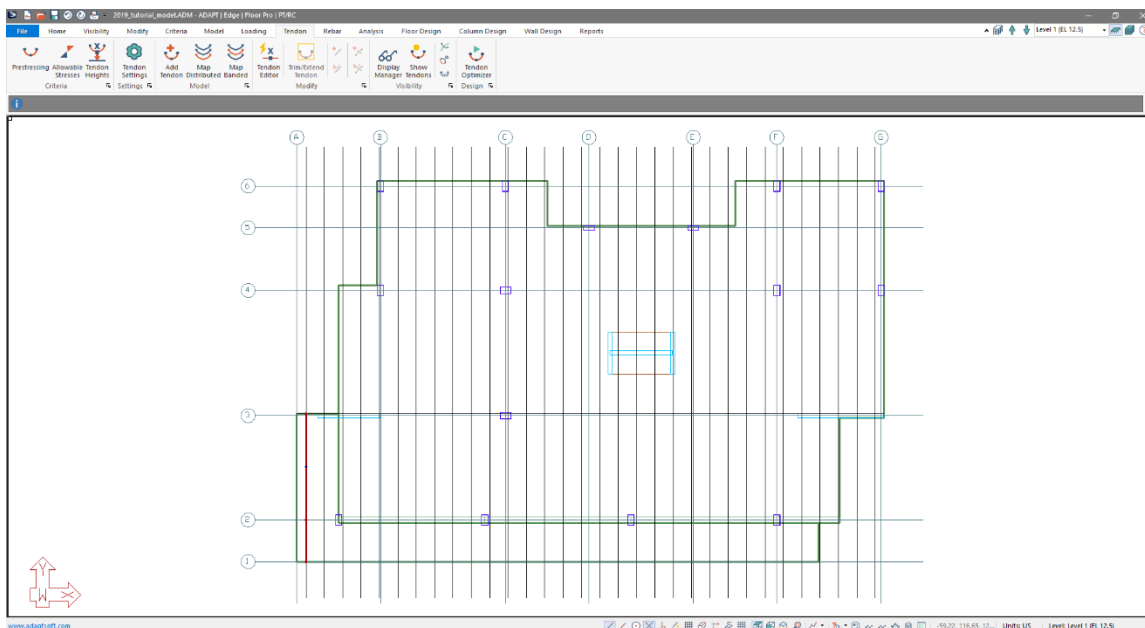

Figure 9-62
- Click on the *Top View*  icon in the **Bottom Quick Access Toolbar**. This will bring you to the view of the model shown in **FIGURE 9-62**.